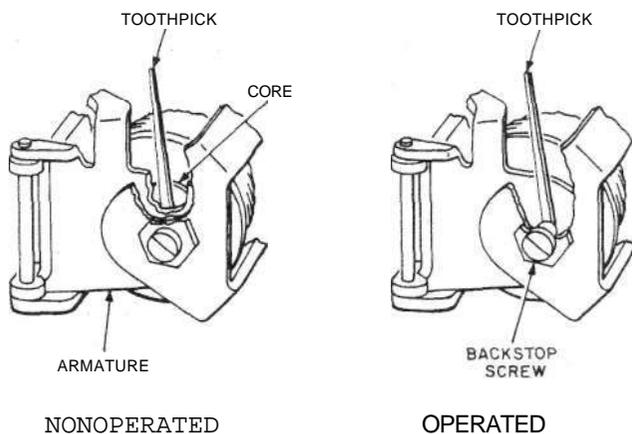

Fig. 26—Blocking 251- and 252-Type Relays
3.22 *251- and 252-Type Relays:* Fig. 26—Block relays nonoperated by inserting a toothpick between the armature and the core. Block relays operated by inserting a toothpick between the armature and the backstop screw.